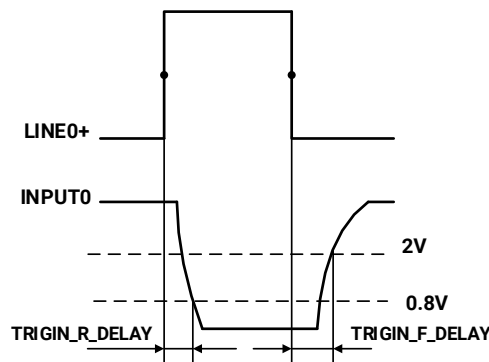

Figure 7-4 Parameter of opto-isolated input circuit
- Rising edge delay: <50μs (0°C~45°C), parameter description as shown in Figure 7-4
- Falling edge delay: $<50\mu\text{s}$ ($0^{\circ}\text{C}\sim 45^{\circ}\text{C}$), parameter description as shown in Figure 7-4